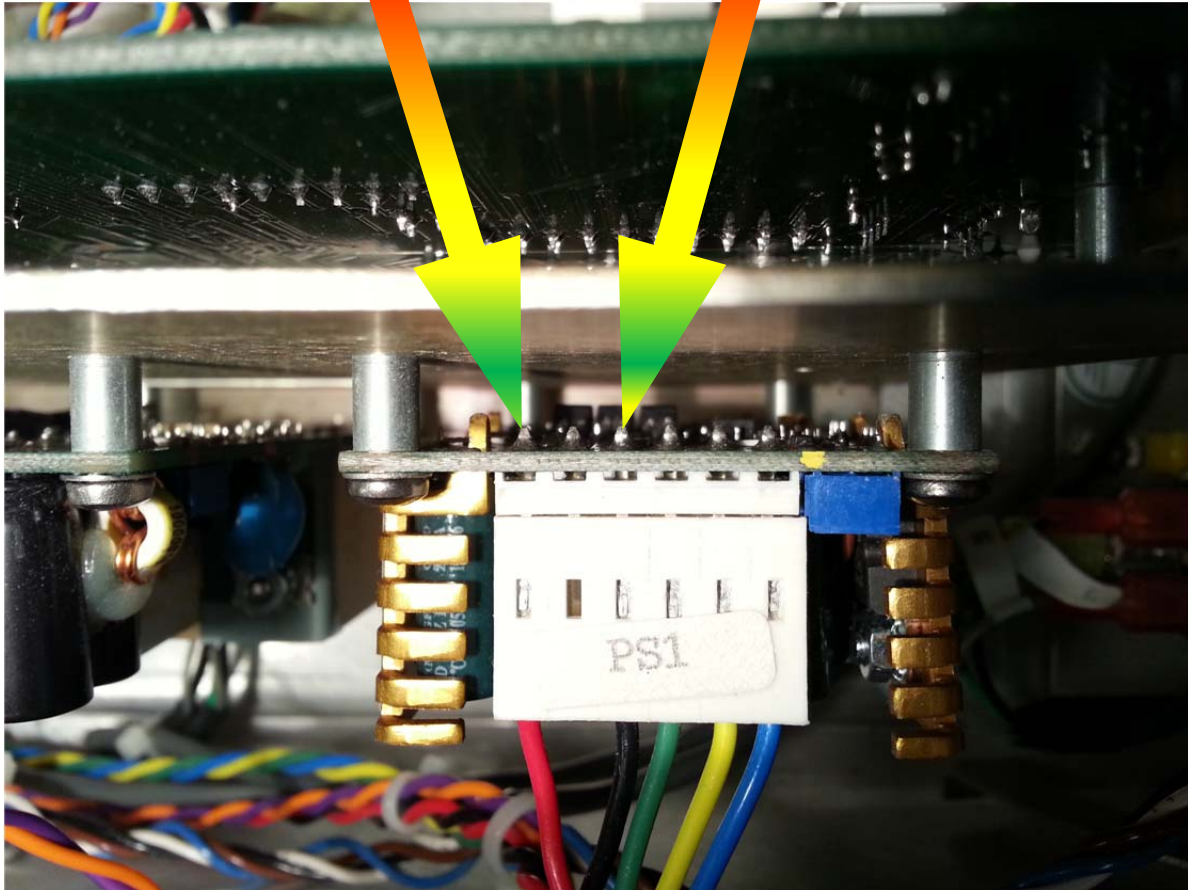

Figure 1
7. If power cycling by itself does not solve the problem, turn the instrument power off. Disconnect and reconnect the power supply output connector in Figure 1 and reapply power to instrument and note whether this solves the problem.
Back side of power supply board solder pad where pin is going through the board to the RED wire - PIN 1 (see Figure 1)	Back side of power supply board solder pad where pin is going through the board to the BLACK wire – PIN 3